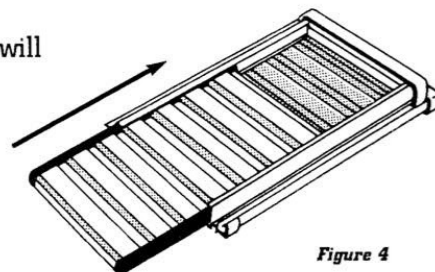

Figure 4
► Take the new filter cartridge and slide it into the channel leaving the black rails in place (*figure 4*). These rails facilitate installation and removal and should be left on the filter.